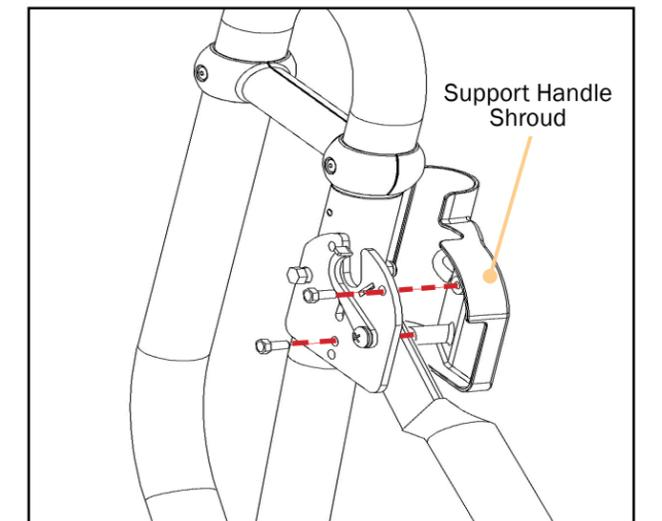

Figure 16
- Select the corresponding Shroud for the left or right side on the A-Frame Base by aligning each with the shape of the hinge plate. Secure with two hex bolts (H1-1202) for each side using the wrenches provided. (Figure 16).